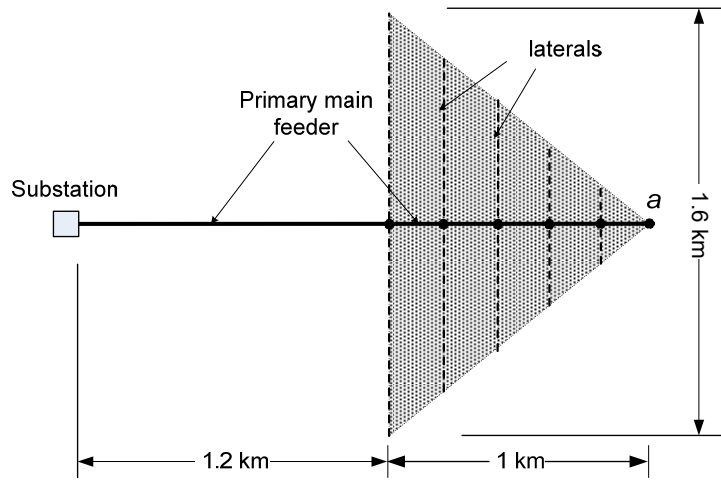

Figure 2.1
- (b) Consider a triangular shaped service area as shown in Figure 2.1. The area has a uniform load density of 1600 kVA/km^2 and 0.9 lagging power factor. A substation supplies 3-phase power with nominal voltage 11.00 kV (V_{L-L}) 50 Hz to this area. The primary distribution system consists of an ACSR 37/2.59 main feeder and ten ACSR 7/4.09 laterals. Both the main and laterals are constructed such that the geometric mean distance for the three-phase wire is 0.8m. Assume that the operating temperature of the main and laterals is 40°C and the laterals are uniformly loaded.